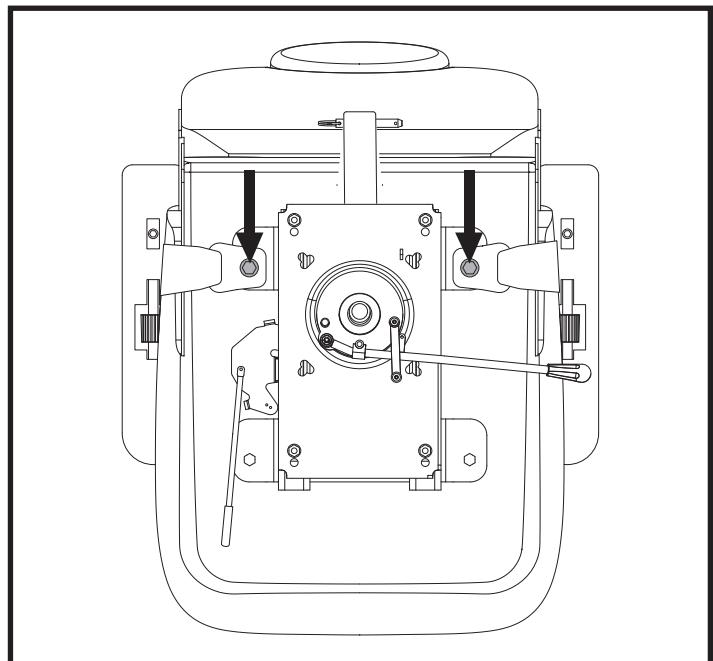

Figure 21. Positioning Belt Bolts
2. Place the seat upside down so that you can see the bottom of the seat base. See figure 21.
1. Insert the metal tab on the right side of the belt into the plastic housing on the opposite strap until you hear a "click." See figure 21.